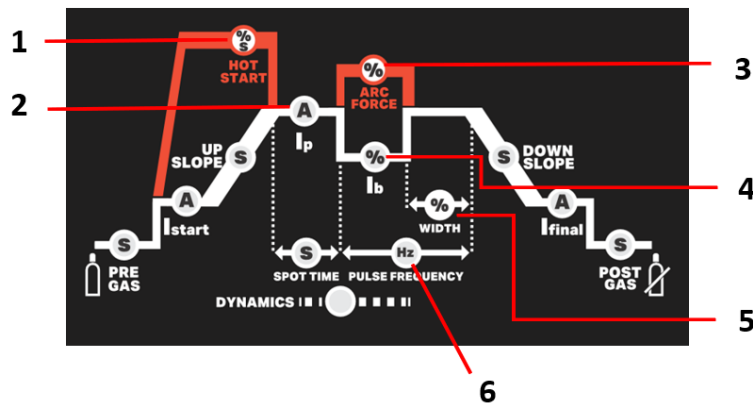

Fig. 1 – MMA parameters
For TP 164-224 DC (See items in Fig. 1)
- Adjust the current value to the diameter of the electrode (Fig.1 - 2), according to the following table, to adjust the machines according to the electrode to be used and start welding